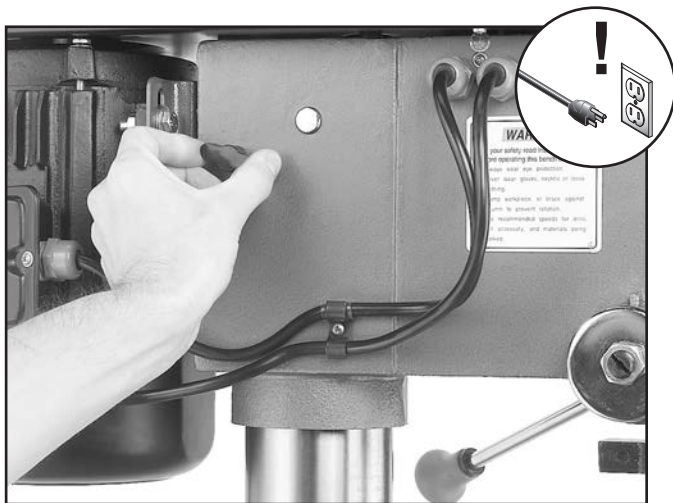

Figure 30. Loosening lock knob (both sides).
2. Loosen the belt tension lock knobs (shown in **Figure 30**) on both sides of the headstock, so the motor is free to move.